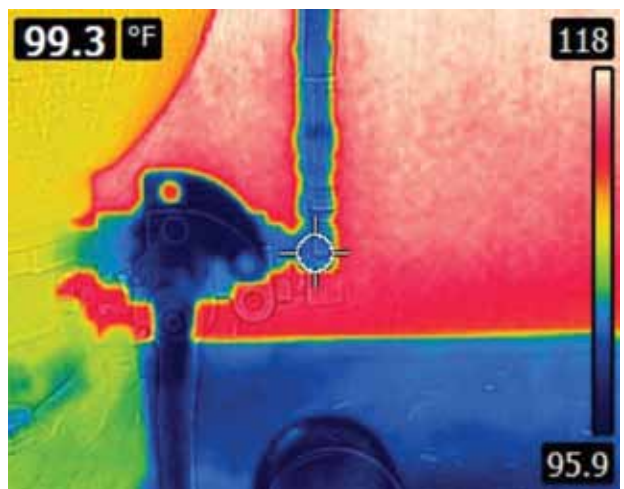

Figure 8. Image showing the tank line temperature of a manual valve
(J) of the manual valve (MDV). This valve is used as a manual accumulator dump valve. It should be opened anytime the system is shut down. This is to ensure that the pressurized fluid in the accumulator (ACC) bleeds down to 0 PSI. This provides a safety backup in the event the EDV valve were to fail closed when the system is turned off. The tank line of this valve should be near ambient temperature while operating. In Figure 8, the tank line temperature of the manual valve is 99.3 degrees F, indicating that the valve is closed.